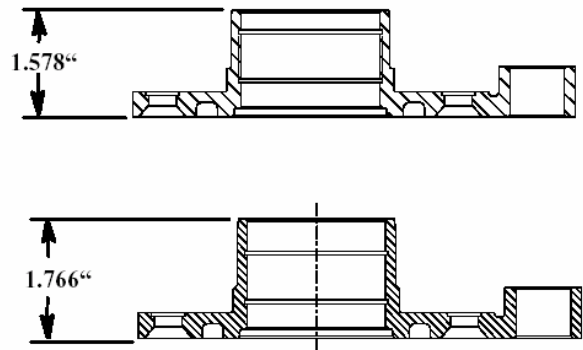
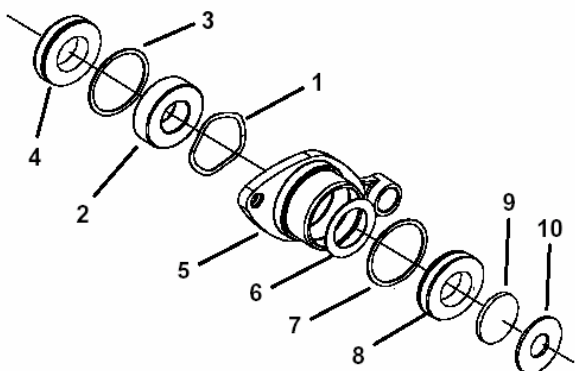

Figure 4
Figure 6
- On bearing housings with a bore length of 1.578 inches (Fig. 4), use the large washer (included in the kit) to press each seal into the bearing housing until the washer is flush with the outer edge of the bearing housing.
- On bearing housings with a bore length of 1.766 inches (Fig. 4), press the inner seal into the bearing housing an additional .188" using the spacer and the large washer included in the kit (Fig. 6). The spacer is .188" thick. Remove the spacer when it is flush with the outer edge of the bearing housing.